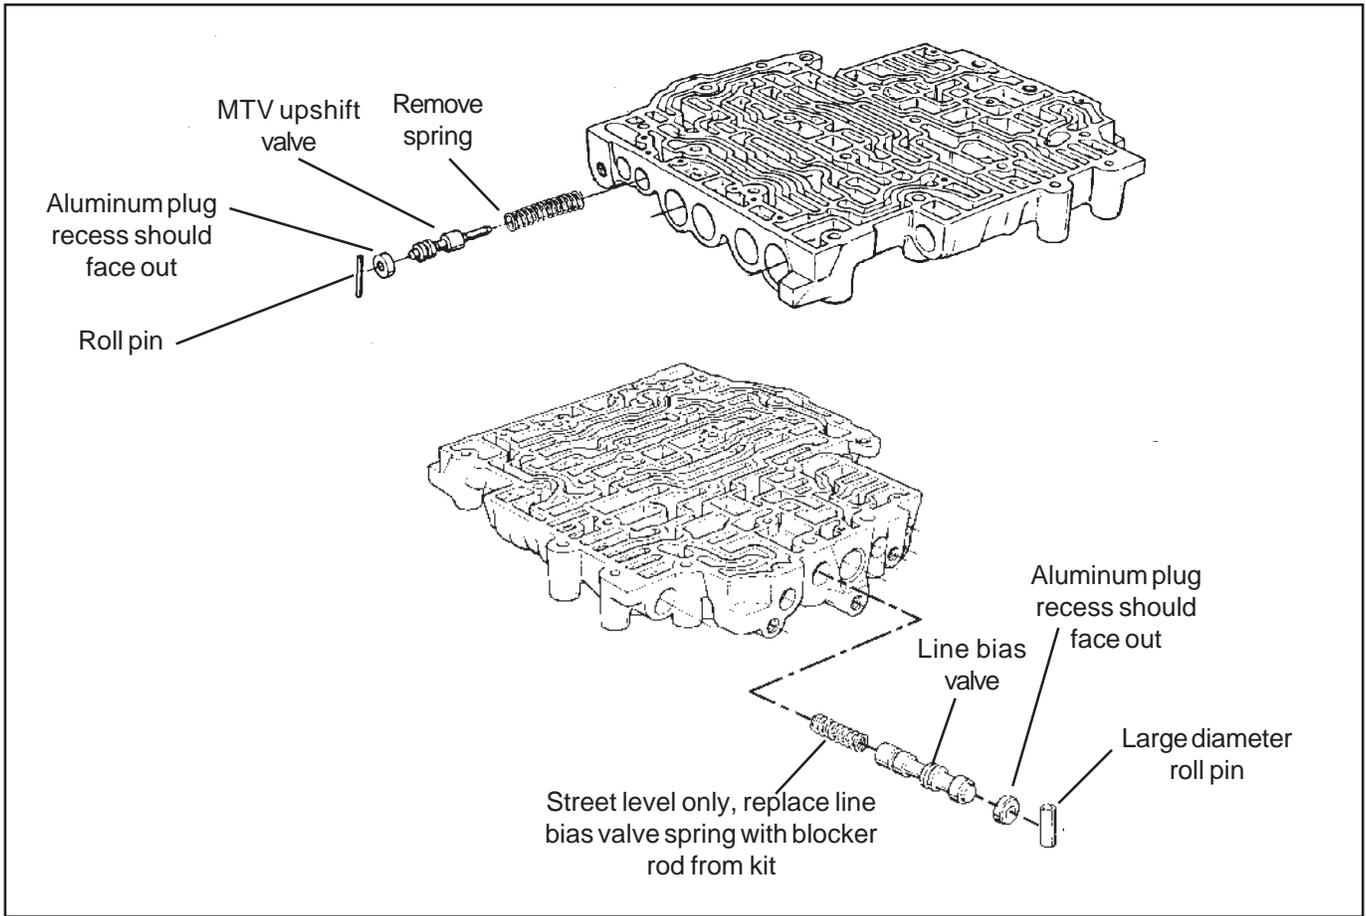

Figure 5
STEP 8. Heavy Duty and Street; MTV upshift valve (See Fig. 5.)
Compress and remove the large roll pin retaining the line bias valve (**See Fig. 5.**) Take care to not distort the roll pin more than is required to remove it. Remove the aluminum plug, valve and spring from bore. The stock spring will not be re used. Insert the blocker rod from the kit into the bore. Install the valve and aluminum plug as removed. If the aluminum plug extends into the roll pin hole, remove the blocker rod and grind or file a small amount from either end of the blocker rod until the aluminum plug clears the roll pin hole when all parts are installed.